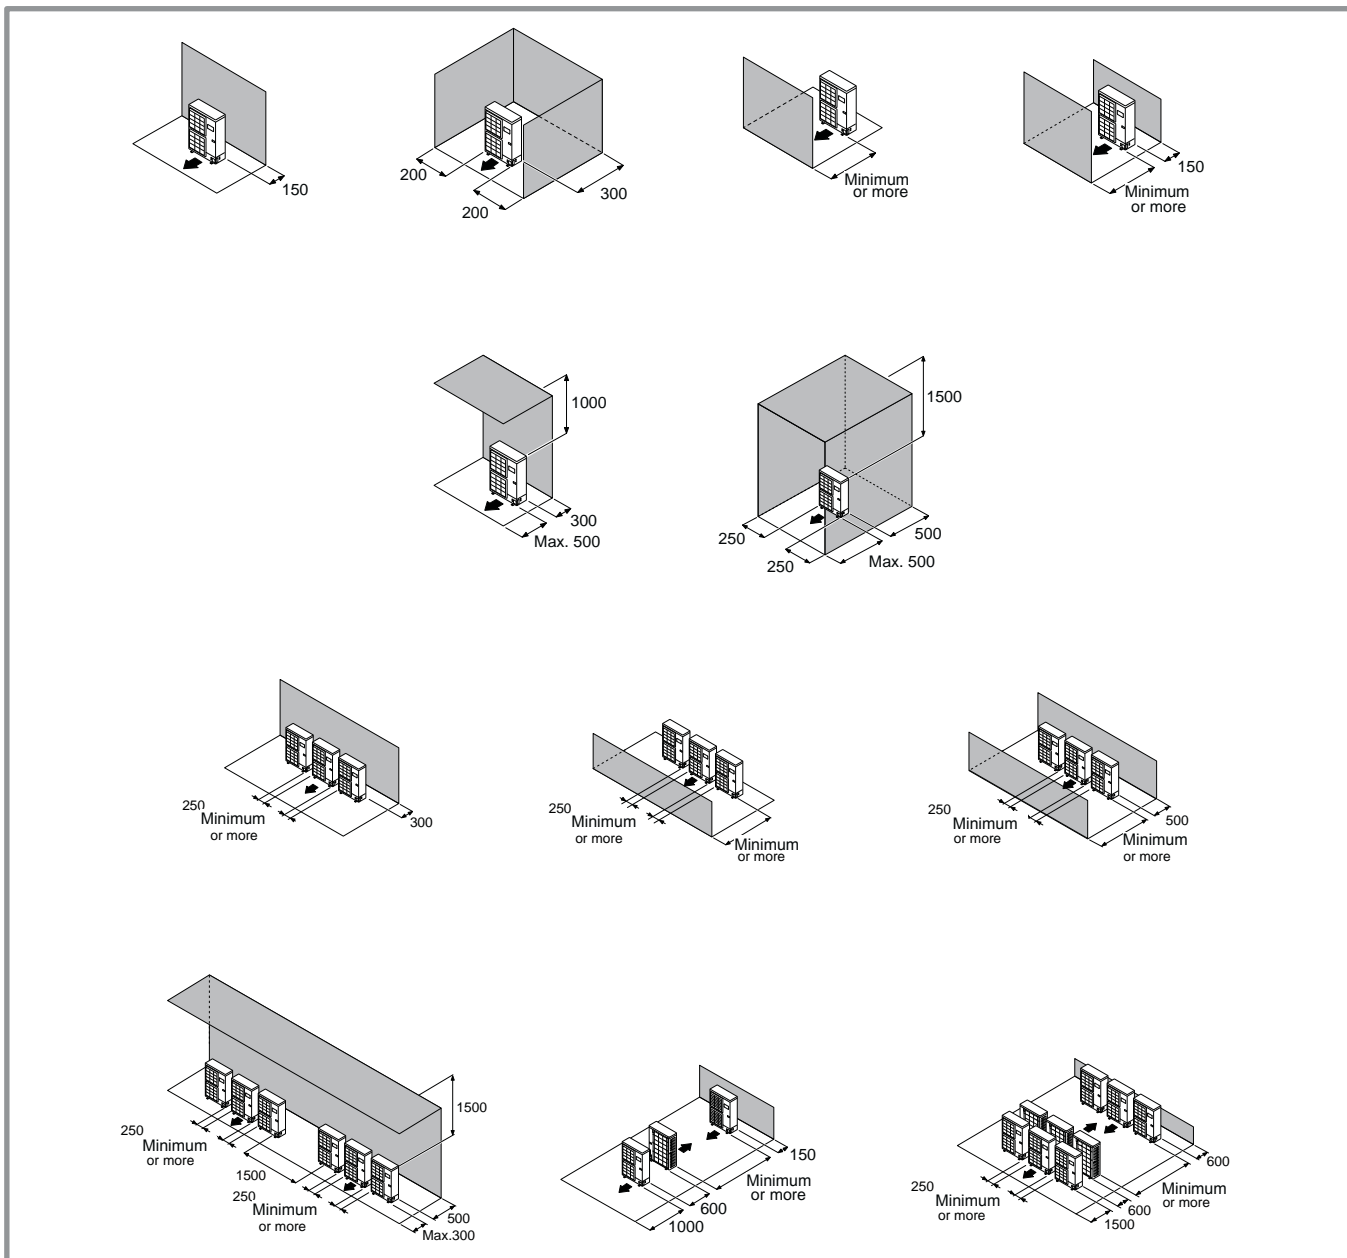

figure 11 - Minimum installation clearances around outside unit (all models)
**The outdoor unit must only be installed outdoor (outdoors). If a shelter is required, it must have broad openings on the 4 walls and observe the installation clearances (figure 11).**
- The unit must be easily accessible for future installation and maintenance work (figure 11).
- Nothing should obstruct the air circulation through the evaporator and from the fan (figure 11).